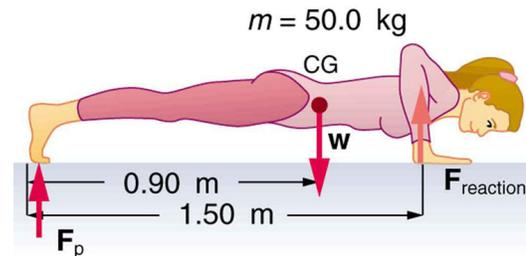

Figure 9.45 A woman doing pushups.
56. (a) What force should the woman in **Figure 9.45** exert on the floor with each hand to do a push-up? Assume that she moves up at a constant speed. (b) The triceps muscle at the back of her upper arm has an effective lever arm of 1.75 cm, and she exerts force on the floor at a horizontal distance of 20.0 cm from the elbow joint. Calculate the magnitude of the force in each triceps muscle, and compare it to her weight. (c) How much work does she do if her center of mass rises 0.240 m? (d) What is her useful power output if she does 25 pushups in one minute?